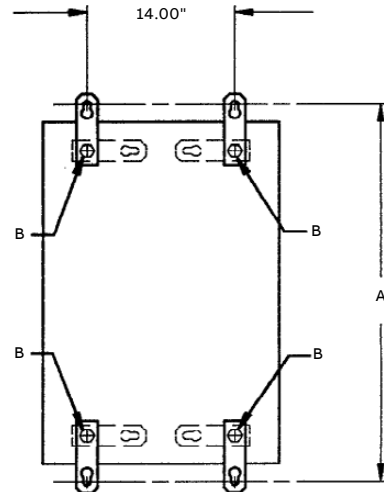

Figure 1
- Rotate mounting tabs 90° to position shown and tighten screws securely. See Figure 1.